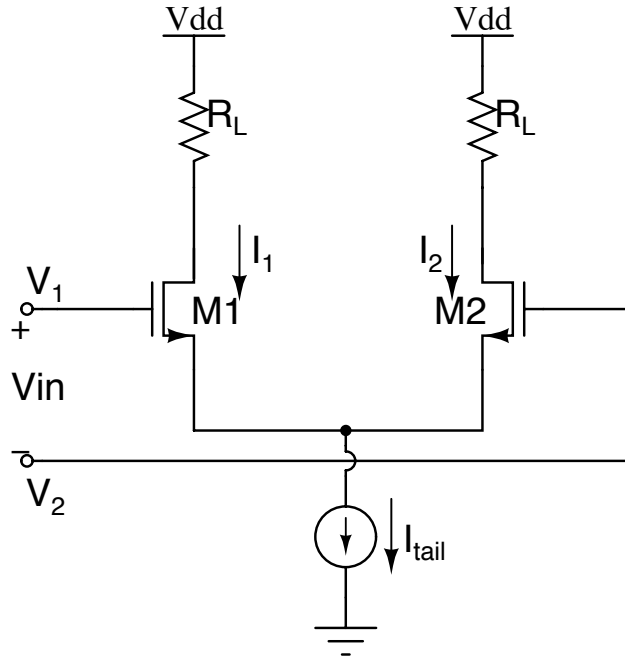
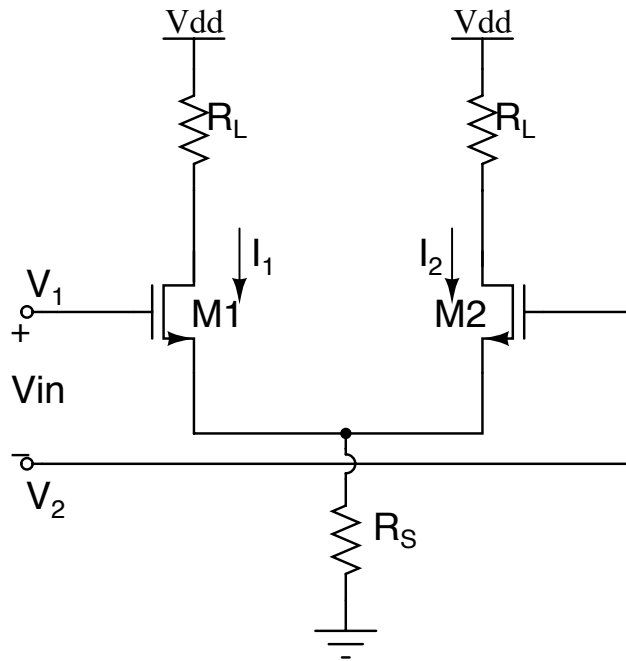
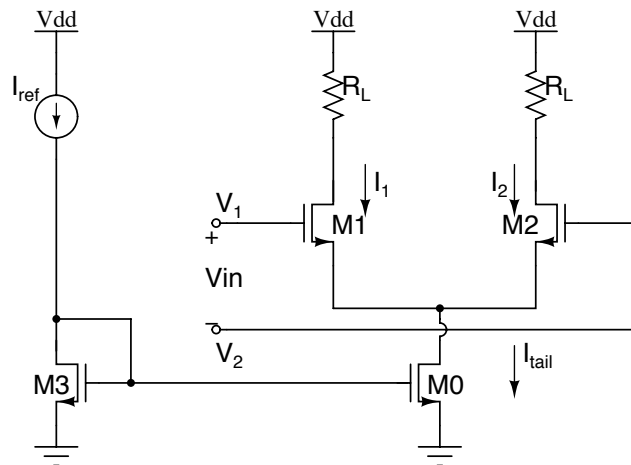

Figure 11: Basic Differential Pair Configuration with Ideal Current Source
Figure 12: Basic Differential Pair Configuration with  $R_S$
Figure 13: Basic Differential Pair Configuration with Current Source Transistor
- Calculate the differential mode gain ( $A_d$ ) for Fig11, Fig12 and Fig13. Provide simulation result for differential mode gain ( $V_1 = 0.5$ ,  $V_2 = -0.5$  for AC analysis).
- Calculate and simulate the common mode gain ( $A_{cm}$ ) for the following cases shown in Fig11, Fig12 and Fig13 ( $V_1 = 1$ ,  $V_2 = 1$  for AC analysis).
- Common mode rejection ratio is defined as the tendency of the devices to reject the input signals common to both inputs of a differential pair and is given by  $CMRR = 20 \log |\frac{A_d}{A_{cm}}|$ . Calculate the CMRR for transistor realization of current source shown in Fig13.